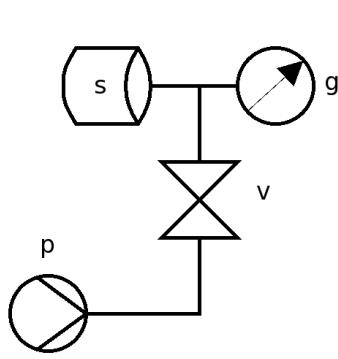
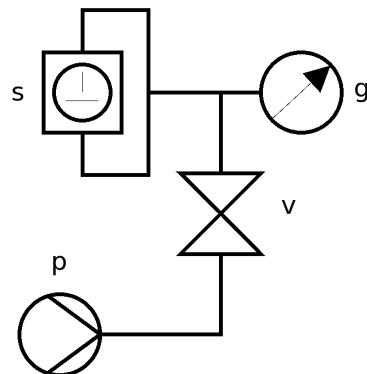

Figure 5.21: Vacuum rise schematic: s is the system to check; g is a pressure gauge; v is a leak-tight manual valve; p exhausts to atmosphere.
Figure 5.22: The same as Figure 5.21 except s has two ports, the inlet and exhaust of a pump, in this case.
1. Set up as shown in Figure 5.21 or Figure 5.22. If the system is powered (such as a pump), make sure it is unplugged.